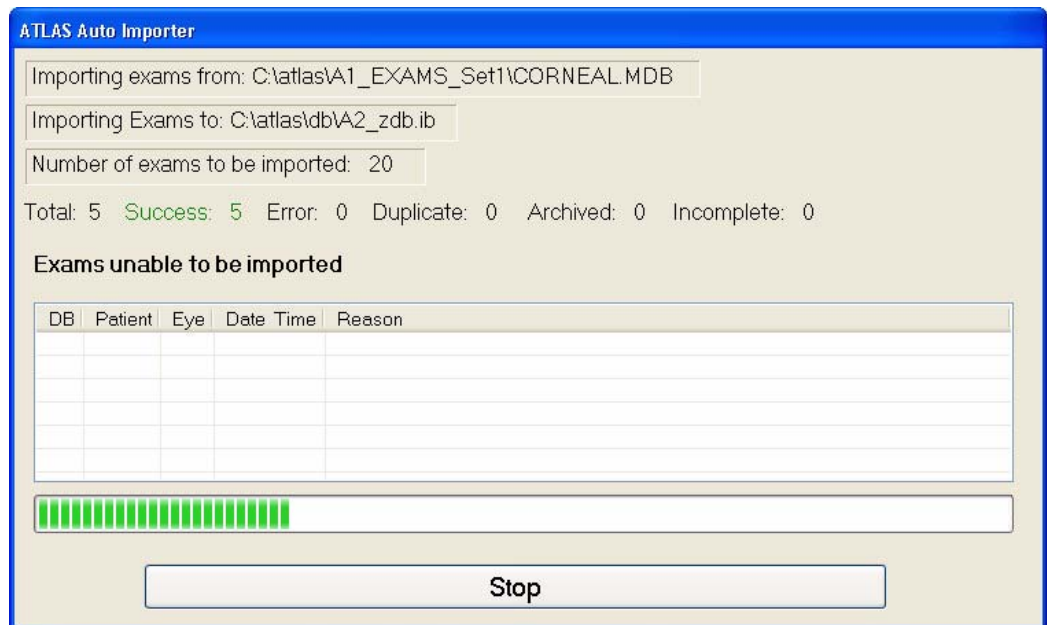
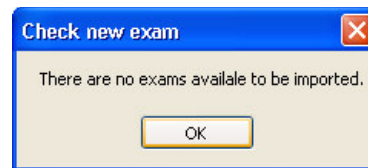

Figure 11-16 ATLAS Auto Importer Dialog
Figure 11-17 Check New Exam Dialog
5. When new exams are found they will be automatically imported into your current database. A dialog will be displayed showing the import progress (Figure 11-16).
- You can perform a manual import at any time by using the ATLAS 900 Series Importer (see Begin Exam Import on page 11-13) or selecting **File > Import > From ATLAS 900 Series...** (if already configured the way you want). When selecting **File > Import > From ATLAS 900 Series...** you will see the Atlas Auto Importer dialog (Figure 11-16) if there are exams to be imported. The manual import will create a summary log file at the end of the import. If there are no exams to be imported you will see a dialog reporting this (Figure 11-17).